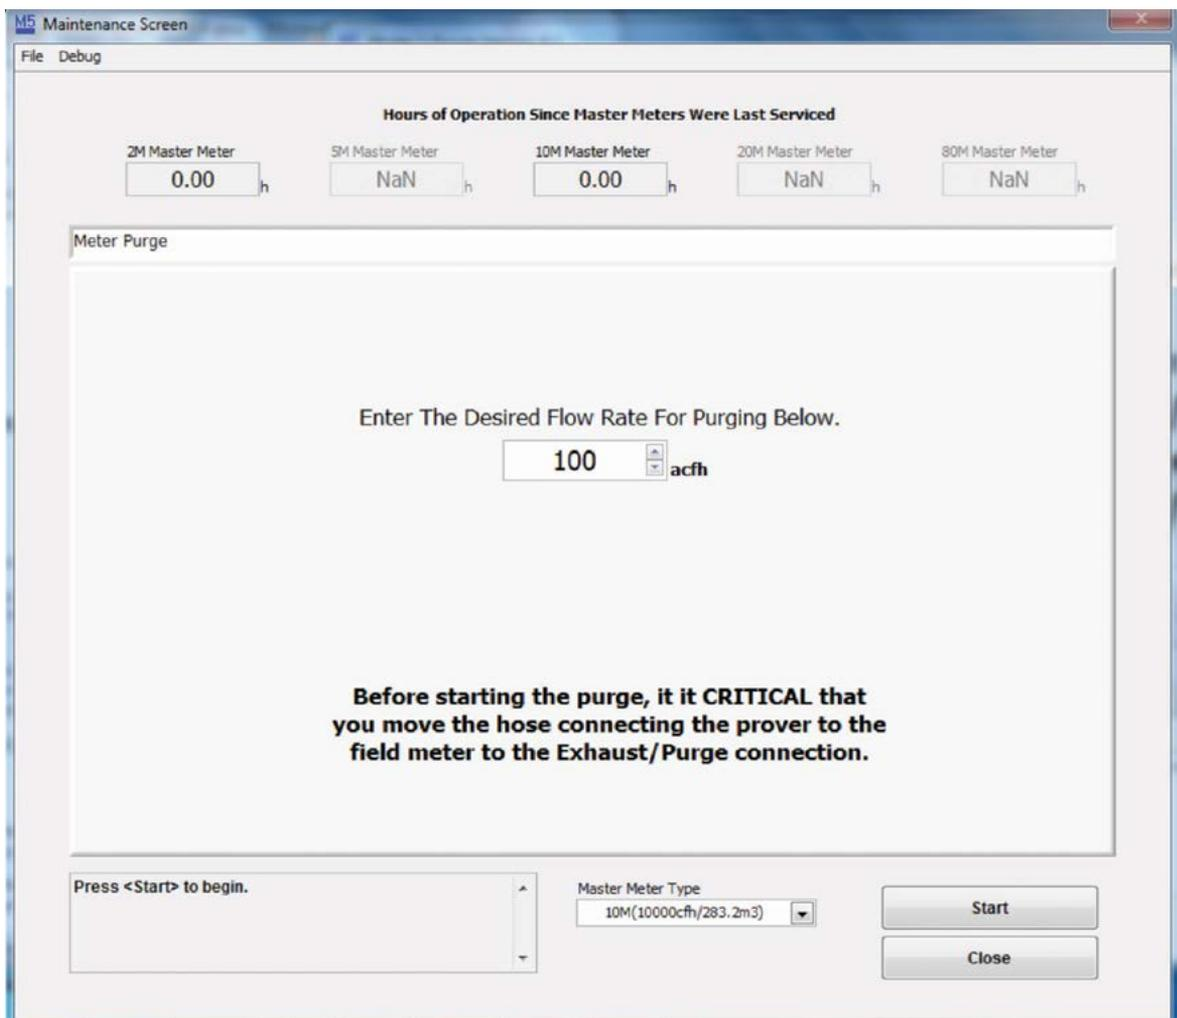

Figure 137: Meter Purge Selection
5. Select Prover Maintenance from the Prover Operations drop down menu, then select Meter Purge. Select the appropriate Master Meter type from the drop down menu near the bottom right of the screen. Enter the single flow rate at which to purge the meter into the box in the middle of the screen. Click on the Start button to activate the blowers for the meter purge. Refer to **Figure 137**.